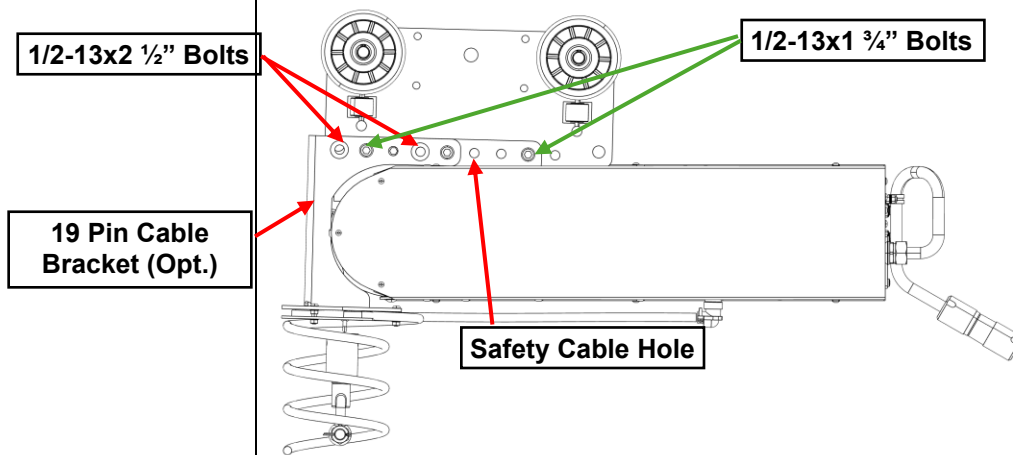

Figure 2-3 With 19-Pin bracket
- 2) Insert (2) ½-13x1½ " (grade 8 or better) socket head cap screws (SHCS), (2) two Nylock nuts, and (2) washers are used to attach the trolley. (See Figure 2-3)